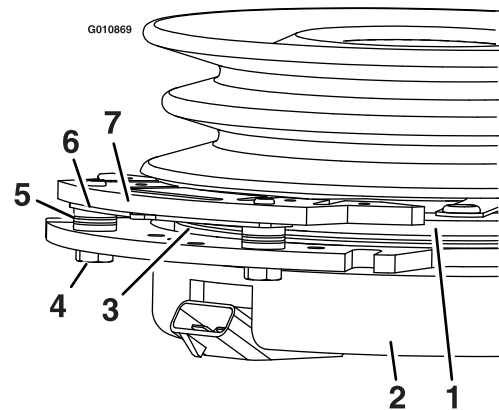

**Figure 79**
3. Remove the dust cap from caster and tighten the locknut (**Figure 79**).
4. Tighten the locknut until the spring washers are flat, and then back off a 1/4 turn to properly set the preload on the bearings (**Figure 79**).
**Important:** Make sure that the spring washers are installed correctly as shown in **Figure 79**.
5. Install the dust cap (**Figure 79**).